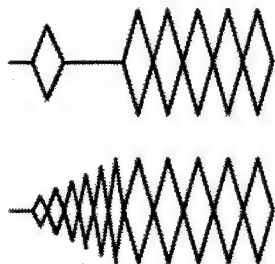

Fig. 2-7
- ② Fig. 2-7 shows the RF waveform in which the indication will result in a bar indication in ① mode (the ABS time CANNOT be read due to a missing or distorted waveform).
- \* If the waveform is as in Fig. 2-7 in F.FWD mode, replace the soft brake (⑱ in VIEW-4 on page 6-8 ) or coil spring (⑲ in VIEW-4) at the supply reel side.
- \* If the waveform is as in Fig. 2-7 in REV mode, replace the soft brake (⑱ in VIEW-4 on page 6-8) or coil spring (⑲ in VIEW-4) at the take-up reel side.